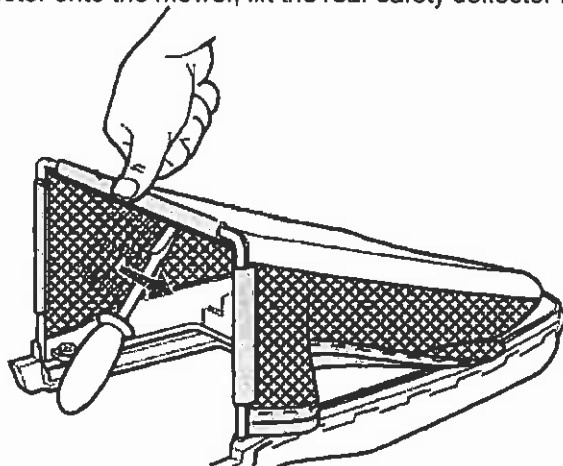

Figure 2
- Fit the cloth base by fastening the plastic bars onto the frame, it may help to use a screwdriver as shown in the drawing to do this. Then click the edge into the groove in the top starting 5-7mm from an end (Figure 2).